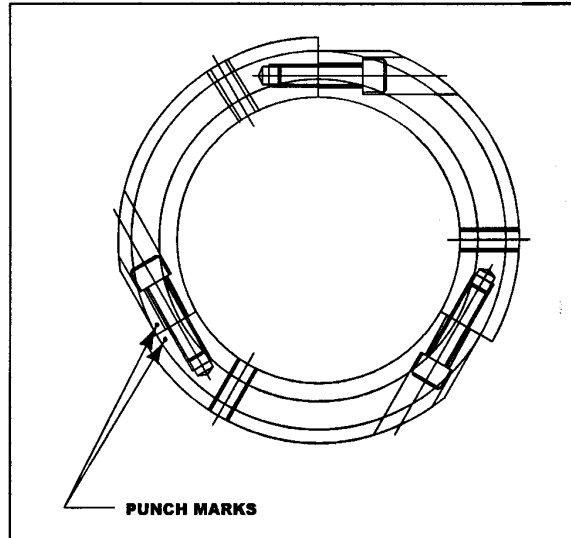

Figure 5-7 Release Collar End View
3. It may be necessary to disassemble the three segments of the release collar to install it on the shaft. It is important to reassemble the segments with the punch marks together as shown in Figure 5-7. This will ensure the segments fit properly.